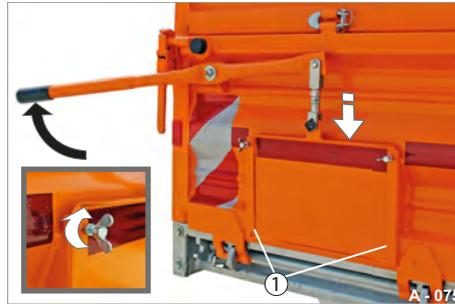

Fig. 97 Closing dosing slider
- ▶ Clean any dirt off the drive slot (Fig. 97/1) of the sliding flap.